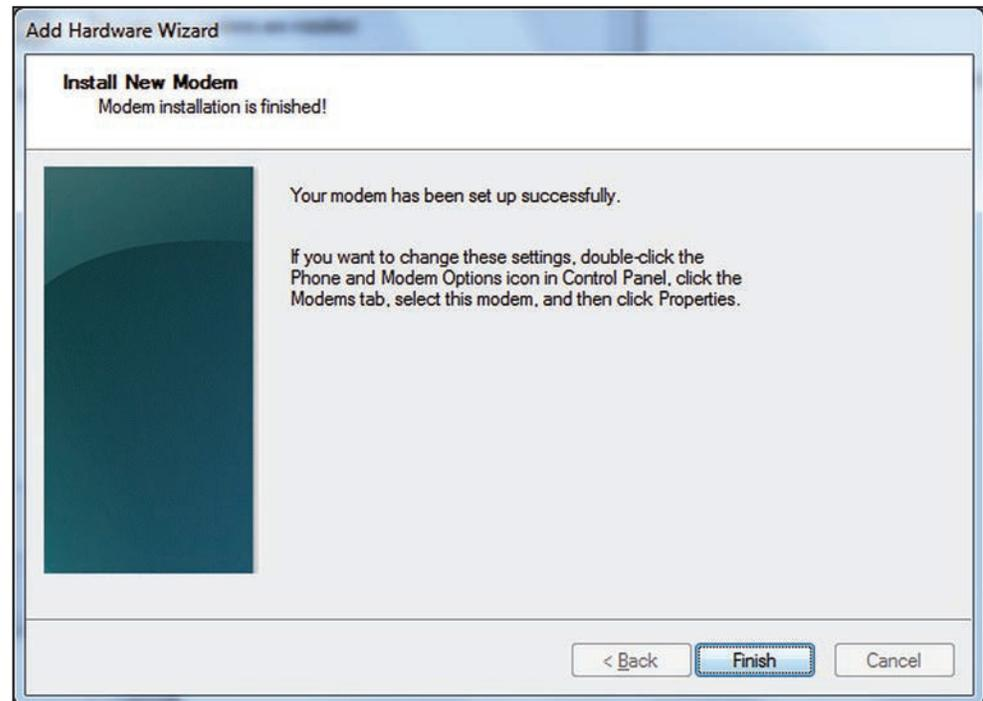

Figure 7. The dialog box showing the modem installation has completed successfully.
STEP 7. Click on the **Finish** button to exit the Add Hardware Wizard dialog box. See Figure 7. Then, click on the **OK** button to close the Phone and Modem applet.